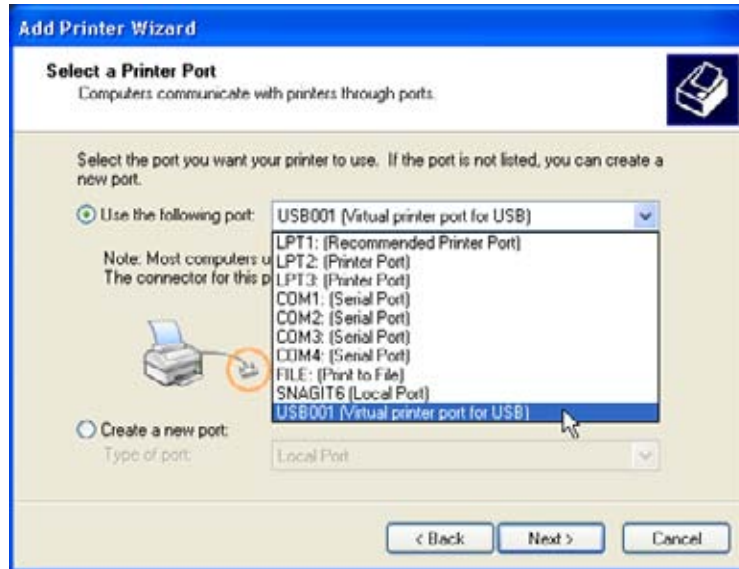

Figure 3-41 Select Printer Port
7.) Select the corresponding Printer Port (e.g., Figure 3-41 = USB001) and click NEXT.